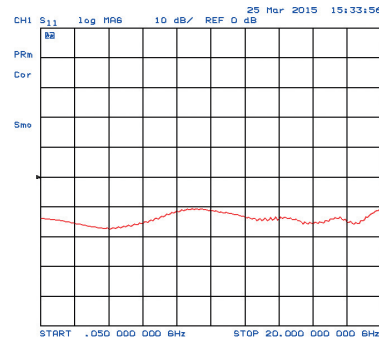

figure 1
- b) The measured signal is transformed from frequency to time domain (figure 1 & 2). Similar to a conventional Time Domain Reflectometer (TDR), all impedance deviations from DUT components (e.g. BNC connector, cable, etc.) can be clearly identified.